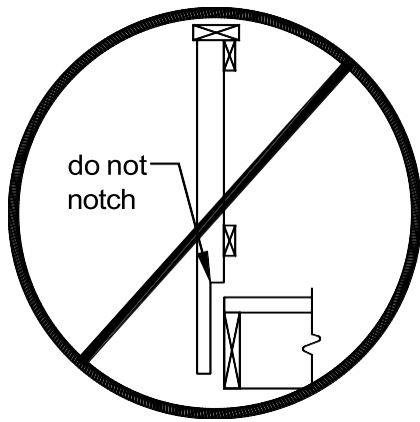

FIGURE 36: POSTNOTCHES PROHIBITED
- Notching guard posts, as shown in FIGURE 36, is prohibited.